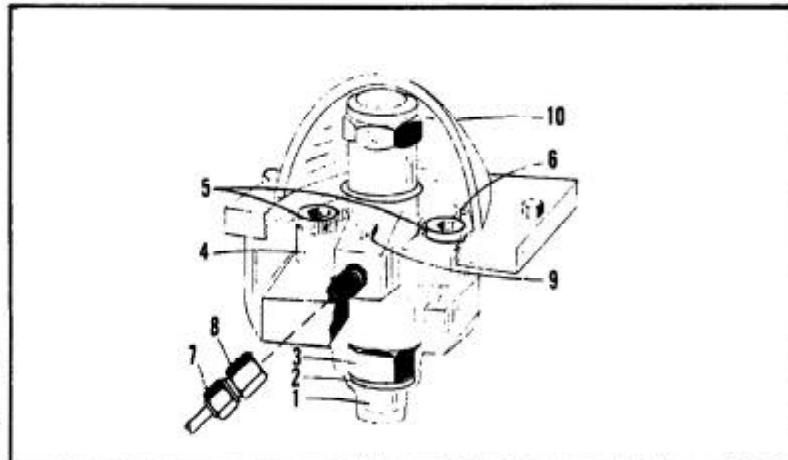

Fig. 8-5
- Loosen the bronze nut containing the rubber seal ring. See Fig. 8-5.
See Fig. 8-5.
- Remove the socket head cap-screws (5) Fig. 8-5, and pull injector assembly from the Hammer.
Note: The nozzle retaining nut (3) Fig. 8-5 must be tight at all times - otherwise excessive amount of fuel will be expelled from the leak off plug. Torque retaining nut to torque values shown on Torque Chart, Section 11.
Note: Do not replace leak off plug (9) Fig. 8-5 with a solid plug. The leak off plug is necessary to relieve internal nozzle pressure - preventing nozzle failure and damage.